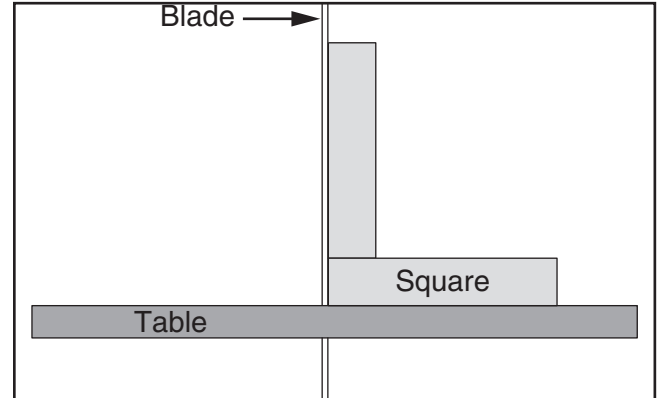

Figure 19. Squaring table to the blade.
- Lower the table and place a machinist's square flat on the table and against the side of the blade, as illustrated in **Figure 19**.